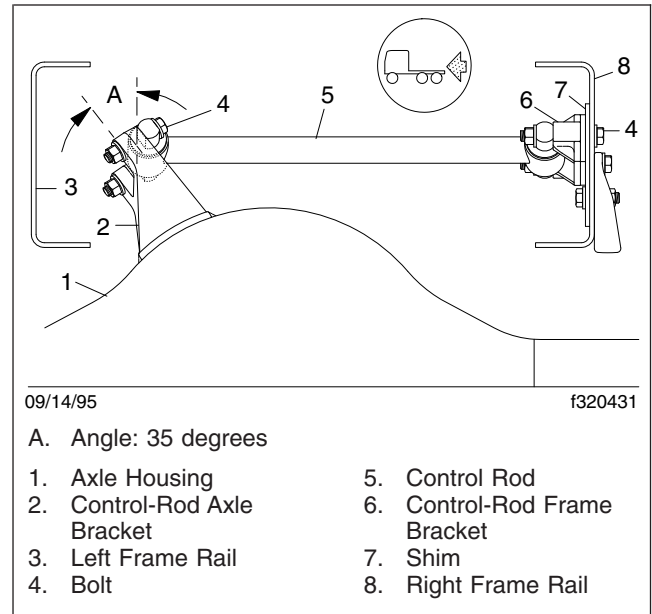

Fig. 1, AirLiner Control Rod Installation
5. Position the new control rod so that the end with the fasteners angled up at 35 degrees is installed in the axle housing bracket. See Fig. 1.